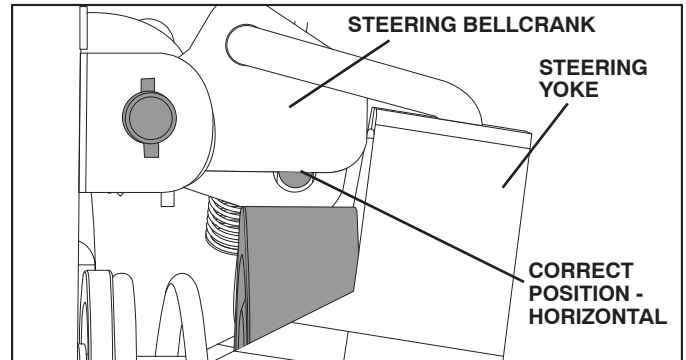

FIG. 33
**NOTE:** Fig 33 shows the bellcrank positioned correctly. The bottom of the bellcrank is horizontal, in a position parallel to the top of the steering clutch. The steering yoke top edge is in line with the middle of the flat vertical surface of the bellcrank.